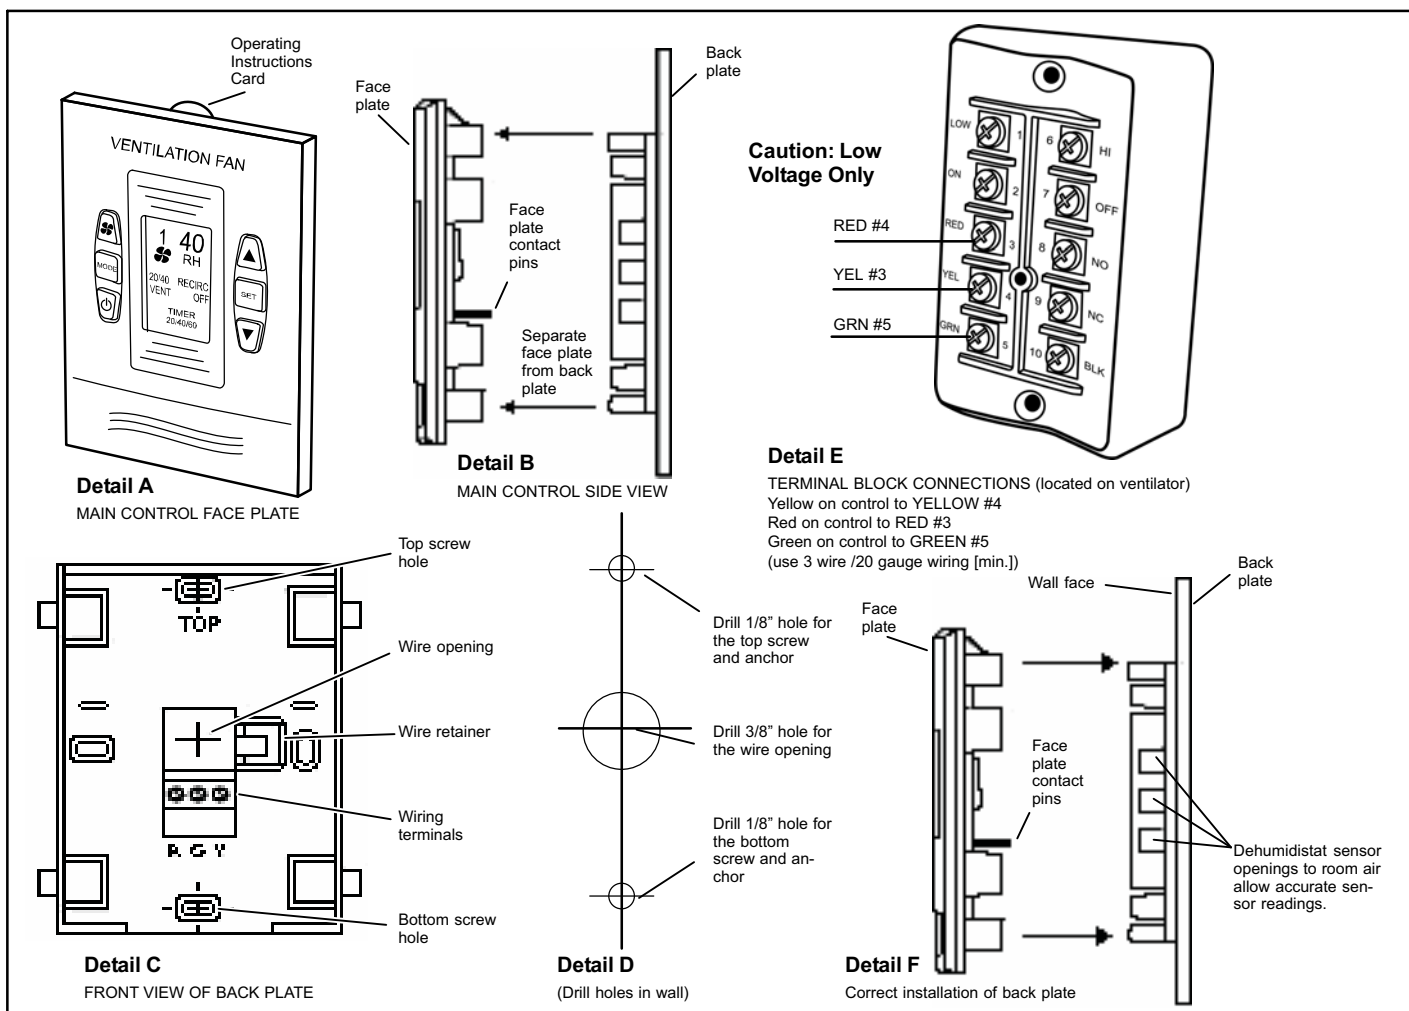

Figure 19. Main Control Installation
1. Remove the Operating Instructions card from the top of the control (see figure 19, detail A).